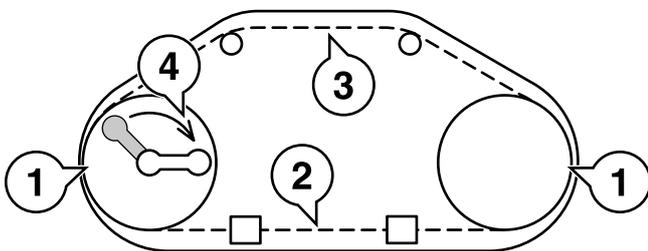

Fig.8
(3)Detach saw blade in the reverse order of [ Fig.8 ].
(4)Install new saw blade in order of [ Fig.8 ].
(7)Install saw blade in order of [ Fig.8 ].
(8)Install saw blade referring to 1-1)Replacement the Saw Blade (5)-(7).
(9)Confirm the oblique cutting according to the procedure (1)-(4).